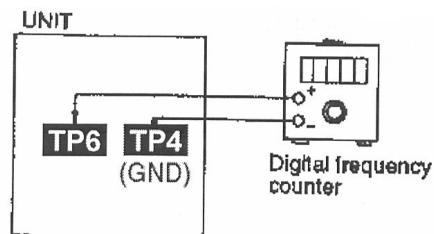

Fig. 13
1. Connect a digital frequency counter (Fig 13).